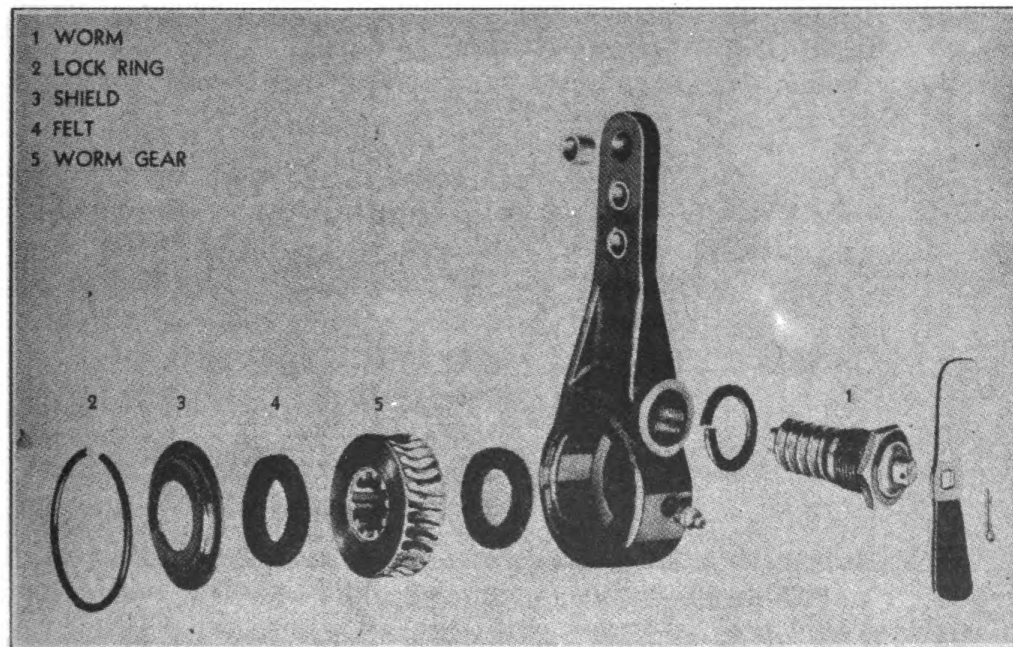

FIGURE 19. SLACK ADJUSTER ASSEMBLY
(1) *Replacing worm and worm gear.* (Fig. 19.)